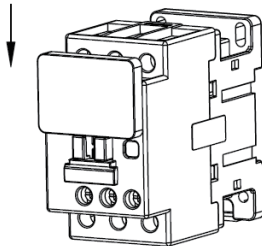
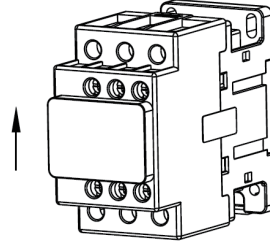

Fig. 1 Dust cover installation method
Fig. 2 Dust cover disassembly method
9.1 The installation and disassembly methods of the dust cover see Fig. 1 and Fig. 2: